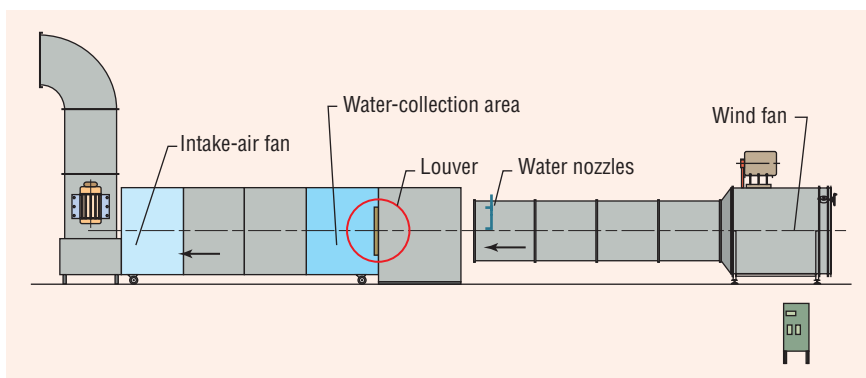

FIGURE 2. Wind-driven-rain-penetration test chamber.
- **Wind-driven-rain-resistant louvers:** This louver style has been developed over the last decade and utilizes new technology to minimize rain penetration. The louver depths typically range from 4 to 8 in. The blades may be positioned horizontally or vertically and generally feature complex profiles. Blade spacing is much closer than standard louvers, ranging from 1 to 3 in. center to center in most cases. Unlike standard louvers, these are tested in AMCA’s wind-driven-rain-penetration test, which simulates storm conditions (Figure 2). Louvers are subjected to heavy rain and wind effects. Many models provide water penetration efficiency of 99 percent or higher. Looking at a 4-sq-ft size, a popular 6-in.-deep vertical-blade wind-driven-rain-resistant design will handle 900 cfm per foot of louver face and generate roughly 0.35-in. pressure drop. These louvers can be as much as two to three times the cost of standard louvers, but in many cases can be half the size. They offer rain protection not available with standard louvers in any size.